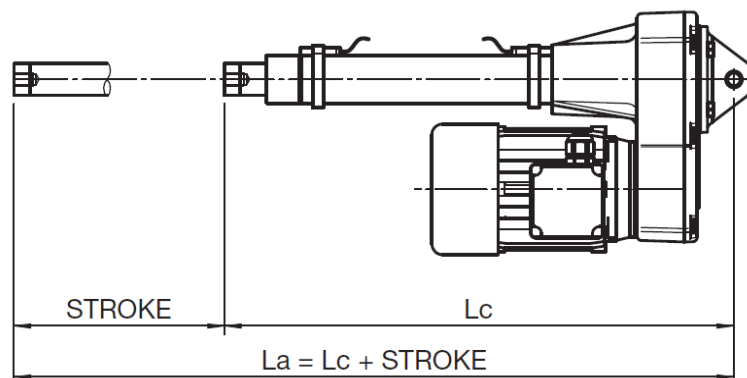

Figure 6.10 – “Lc” and “La” dimensions
- The positions of the two limit switches are the extreme travel positions Lc and La (see Fig. 6.10).
- Check if the extreme dimensions of the actuator “Lc” and “La” (see Fig. 6.10) are compatible with extreme positions of the plant component that has to be moved.
- Before to start relubrication, put the actuator in extended position (La – see Fig. 6.10)